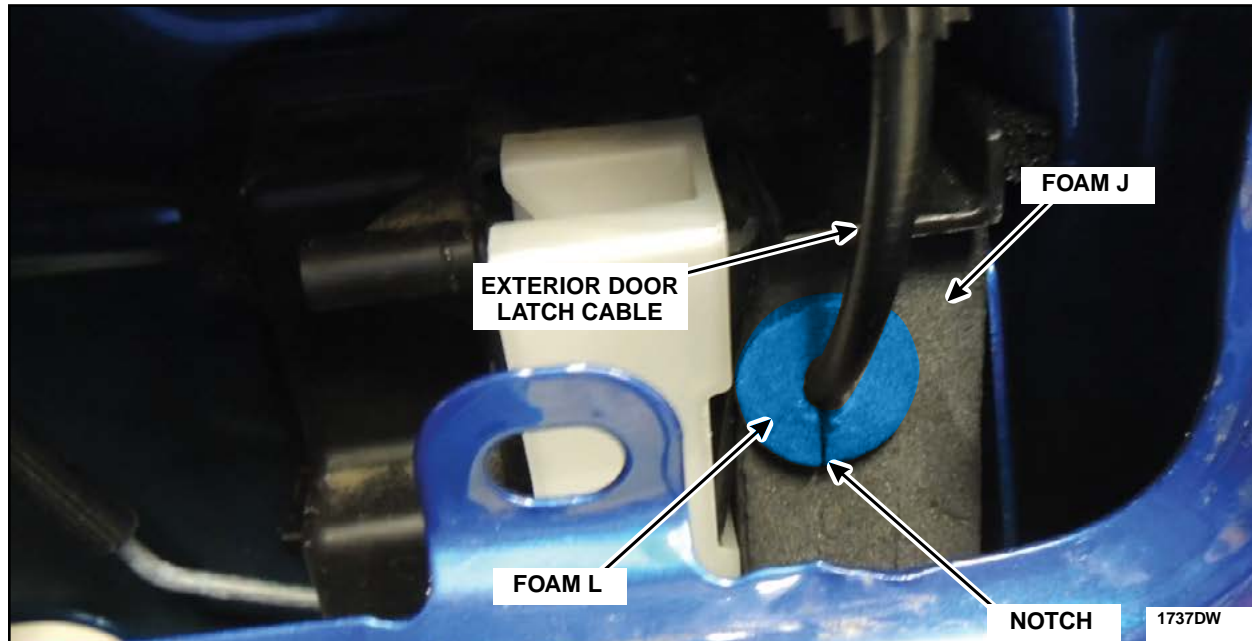

FIGURE 76
2. Install Foam L over the door latch cable and onto Foam J to cover the gap between the exterior door latch cable and Foam J. See Figure 76.